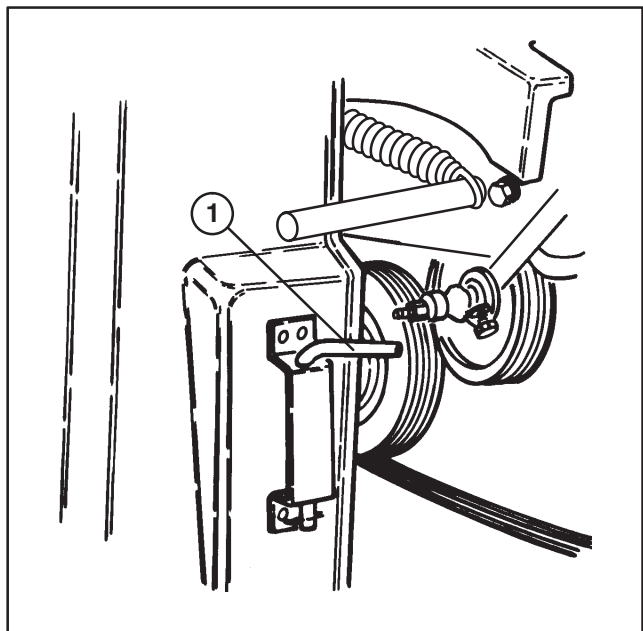

Figure 19
- B. Remove override pin from storage bracket on front of coring head cover (Fig. 19).
1. Remove override pin from storage bracket on front of coring head cover (Fig. 19).